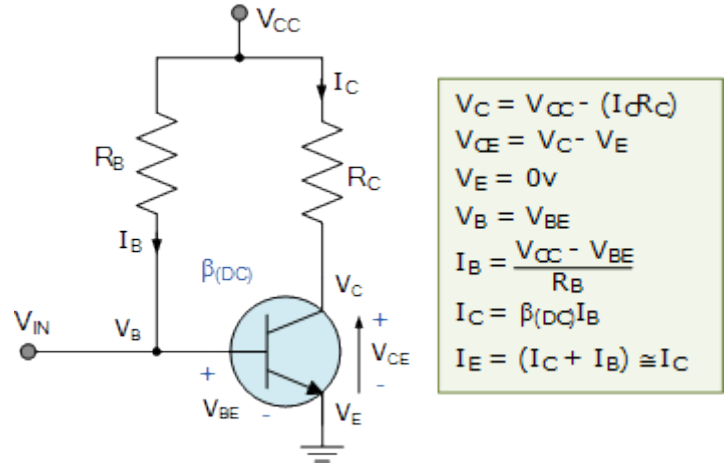

Fig. 1: Fixed bias
The circuit of Fixed bias is shown in fig 1. In this method, the transistors base current, I_B remains constant for given values of V_{CC} , and therefore the transistors operating point must also remain fixed. This two resistor biasing network is used to establish the initial operating region of the transistor using a fixed current bias.
1. Connect the fixed bias circuit as shown in figure 1.